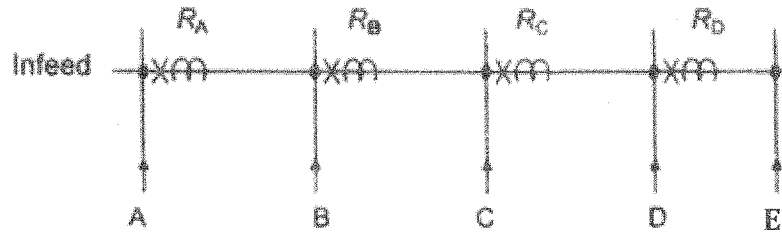

Figure Q5
- d) Consider the radial system of feeders shown in Figure Q5. There are four substations (B, C, D and E) fed from station A, making four feeder zones. The calculated fault currents at each of the substations are shown in Table Q5. The maximum load current at each bus is 100 A. The operating time of the breakers is 0.5 s and overshoot is 10%. Design an overcurrent protection scheme for this system using Inverse Definite Minimum Time (IDMT) relays by calculating the,